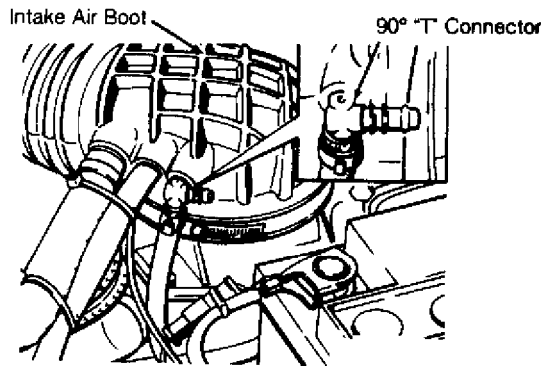

Fig. 5: Positioning Canister Hose For O2 Sensor Test
2) Attach Multimeter (US 1119) to adapter and set meter on DCA 200m scale. Remove PCV hose and vent to atmosphere. Remove 90 degree "T" connector and insert port with small vent hole into intake air boot. See Fig. 5.